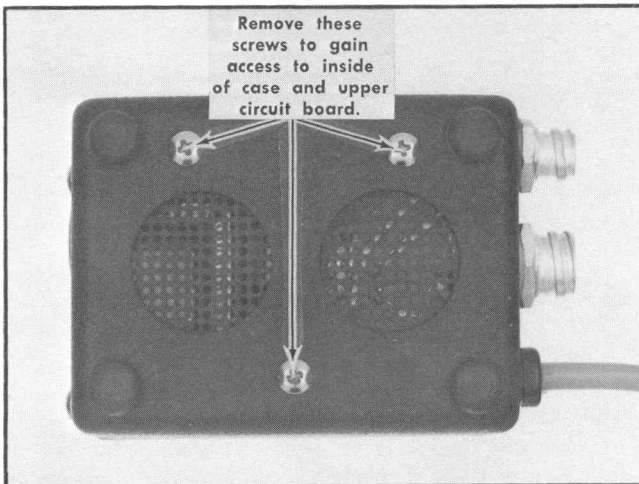

Fig. 6-1. Screw removal for Speedcomputer.
- c. Remove the three screws indicated in Fig. 6-1 from the rear of the Speedcomputer case.